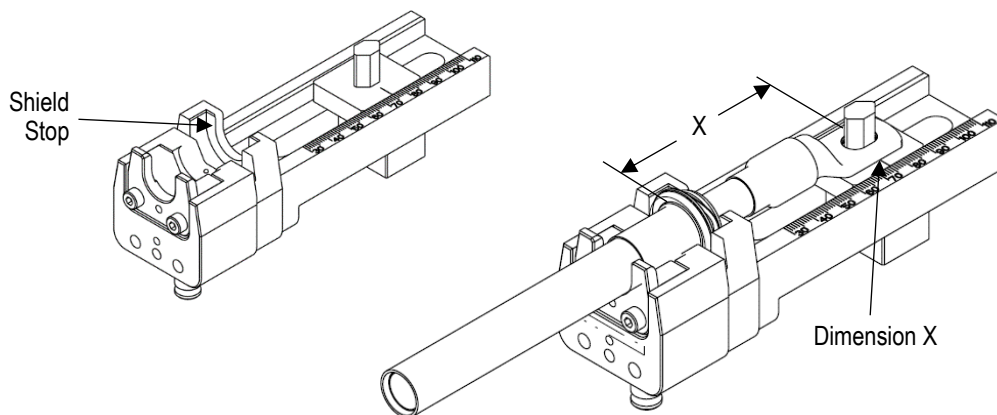

Figure 3
2. Adjust Dimension X on Terminal Locator as applicable (see Figure 3).